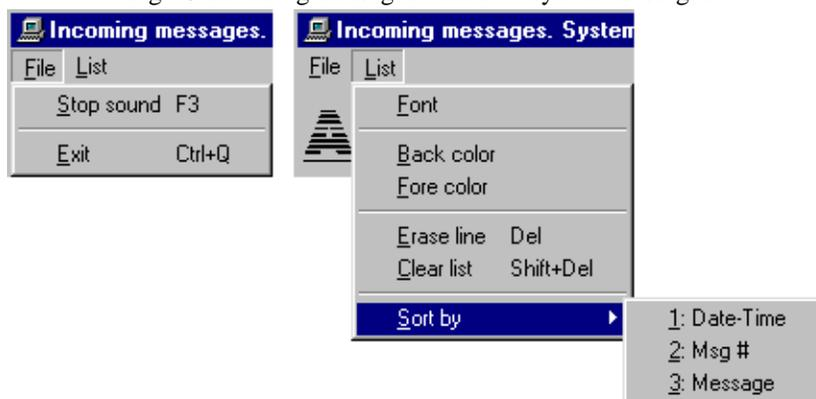

Fig. 50 Incoming messages window - system messages. Menu
- *System messages* command. This opens the window shown in Fig 50. A group of alarm messages is displayed in this window only. This window contains a menu, an incoming messages list and a list pop-up menu.